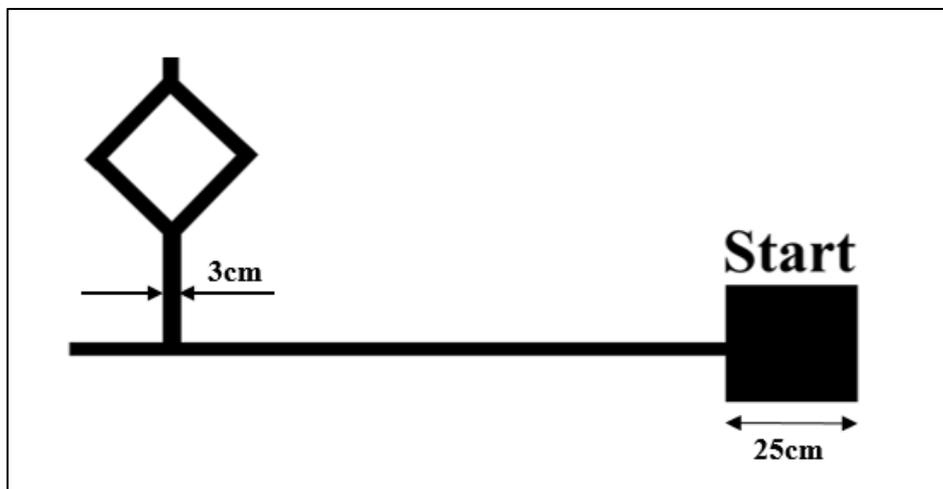

Figure 3: Section 1
7. **Figure 3** will give you the **dimension of the section 1**